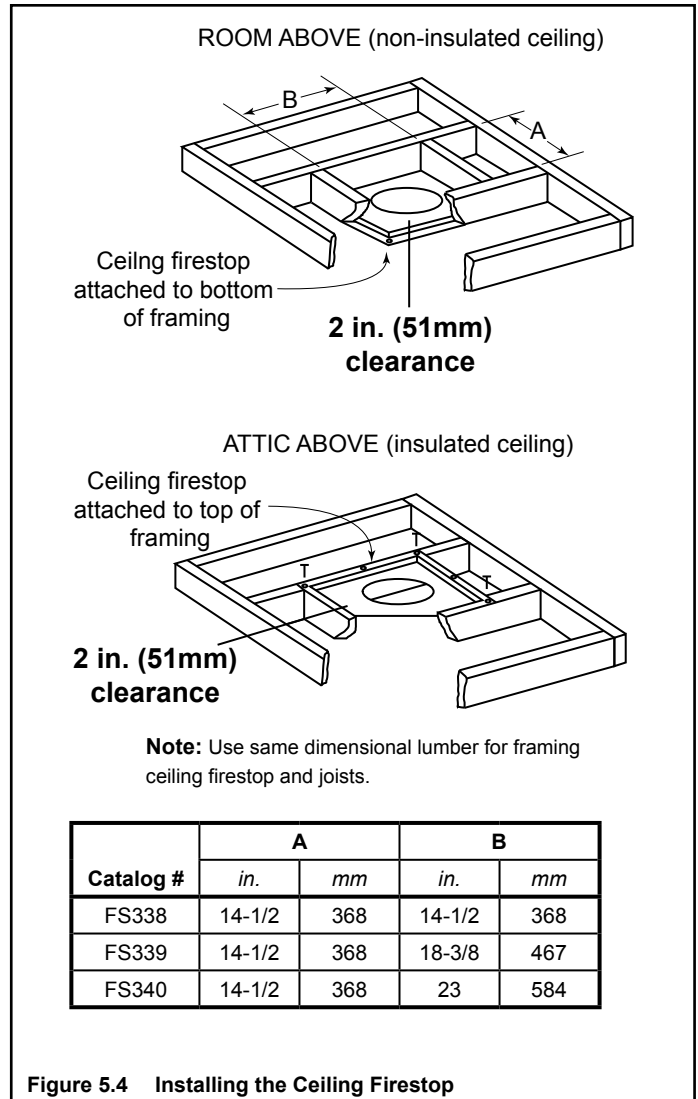

Figure 5.4 Installing the Ceiling Firestop
- Mark and cut an opening in ceiling as shown in Figure 5.4.
- Refer to Figures 5.4, 5.6, 5.7.